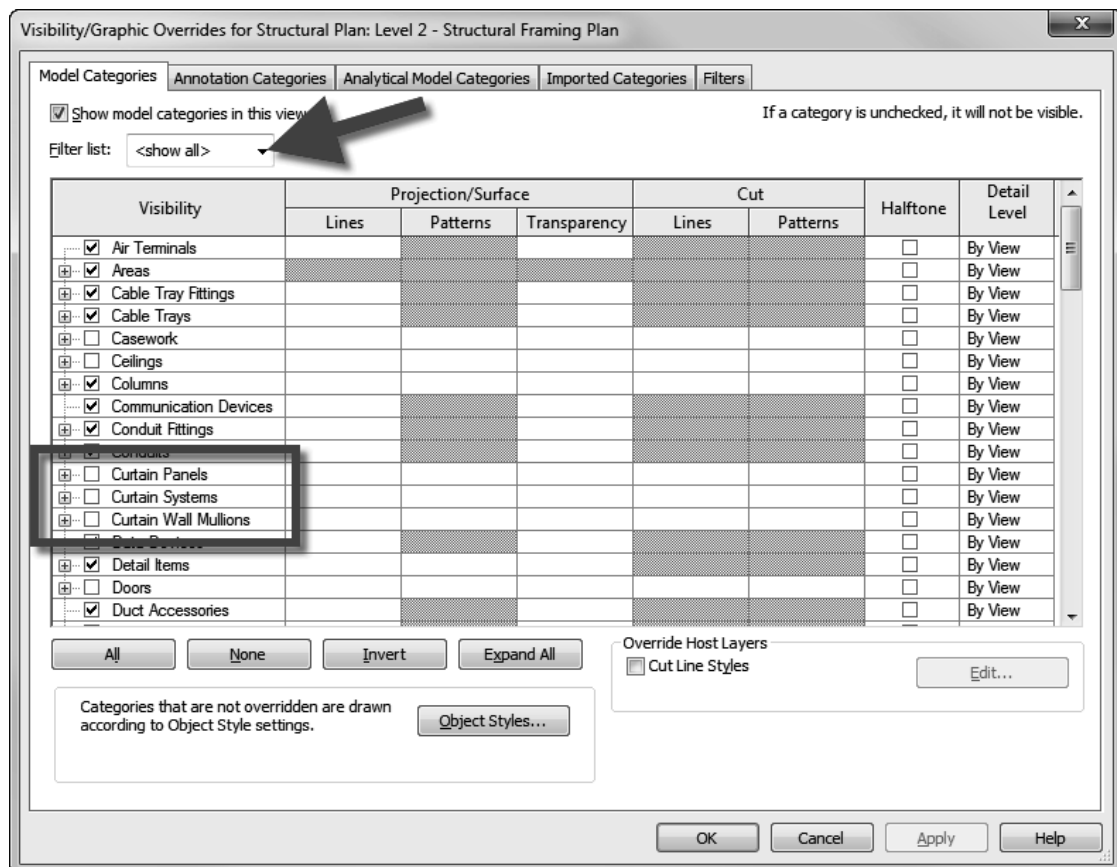

FIGURE 7-3.11 Visibility dialog; turning off the curtain walls
23. Set *Filter list* to **Show all**. (See Figure 7-3.11.)
24. Uncheck the three “**Curtain**” categories. (See Figure 7-3.11.)